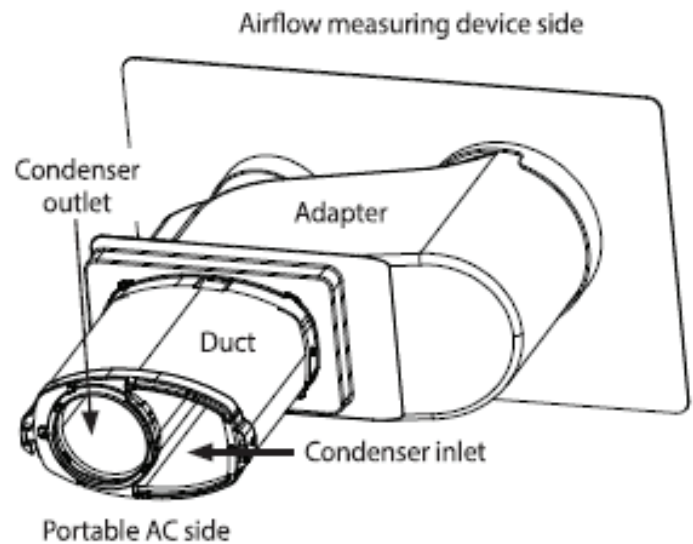

Figure 1: Adapter and Duct Set-up
2. Attach the adapter to the duct as shown in figure 1 by inserting the clips on the duct into the channel on the adapter.